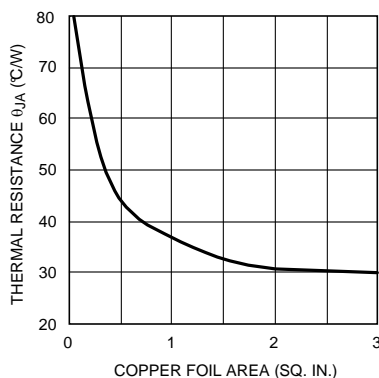

Figure 6. Thermal Resistance (typ) for 7-L TO-263 Package Mounted on 1 oz. (0.036 mm) PC Board Foil
5. Choose a copper area that will guarantee the specified  $T_{J(MAX)}$  for the calculated  $\theta_{JA}$ .  $\theta_{JA}$  as a function of copper area in square inches is shown in Figure 6.
4. Finally, using this value for  $\theta_{JA}$  choose the minimum value of copper area from Figure 6.